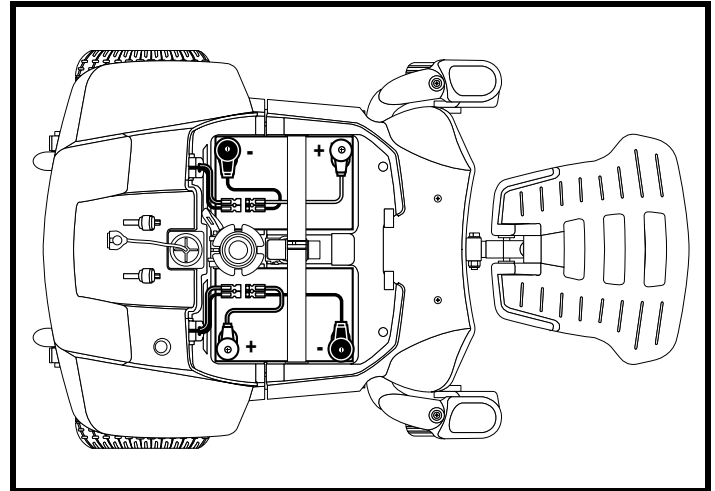

Figure 18. Battery Orientation
5. Place the new batteries into the battery wells with the terminals facing out as shown in **figure 18**.